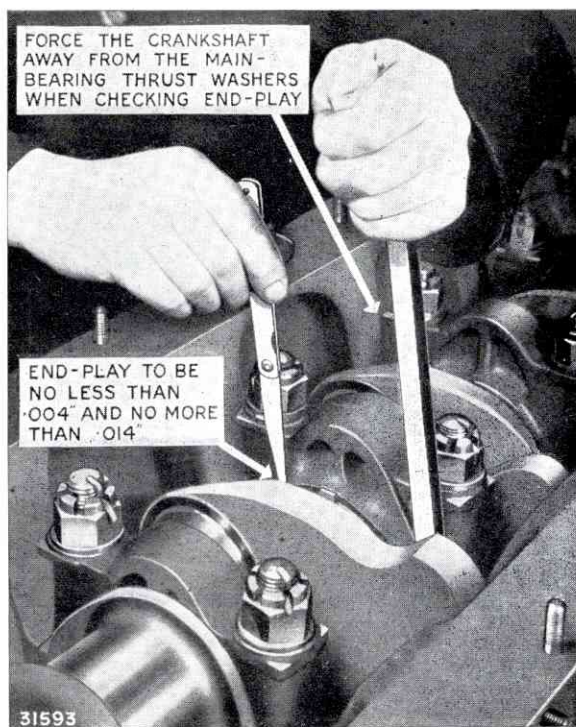

FIG. 50. CHECKING CRANKSHAFT END-PLAY
5. Check the crankshaft end-play. This should not exceed .014 in. (.3556 mm.), Fig. 50.